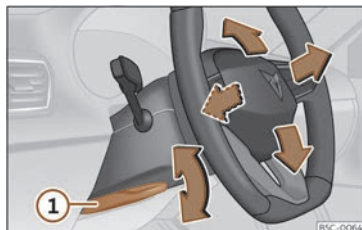

Fig. 85 Lever in the lower left side of the steering column.
- Pull lever >>> **Fig. 85** ① down, move the steering wheel to the desired position and lift the lever back up until it locks.
- After adjusting the steering column, push lever >>> **Fig. 85** ① firmly upwards so that the steering wheel does not accidentally change position while driving.